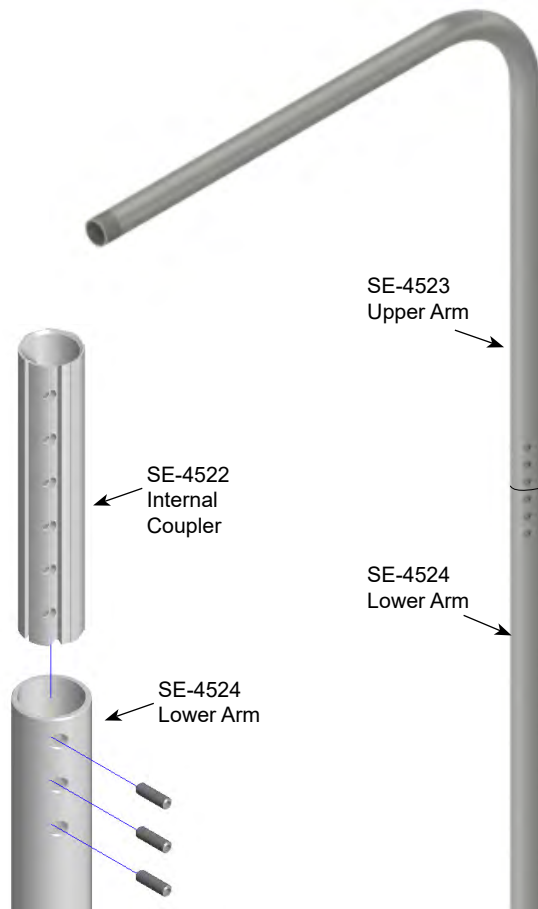

Figure 1
1. Insert the SE-4522 Internal Coupler into the SE-4524 Lower Arm and align the lower 3 holes of the coupler with the holes in the arm. Insert 3 of the supplied set screws through the holes in the arm into the coupler. Do not tighten at this time (Figure 1).